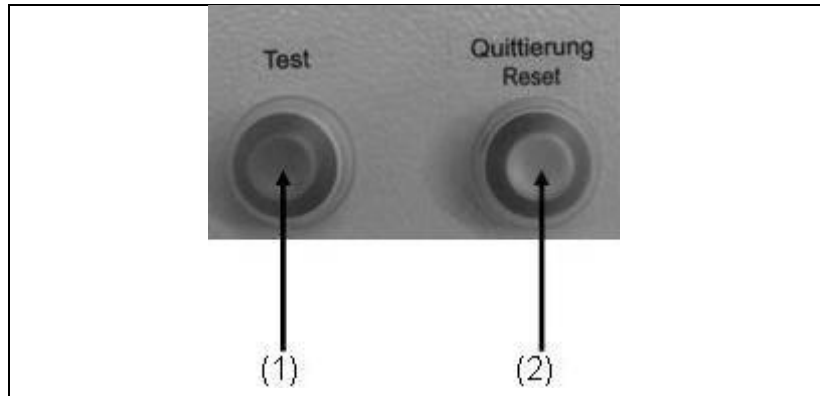

Figure 5-2: Insulation monitoring using E-MCS 3.0
2. Press the test button (see Figure 5-2-(1))
- ✓ The displayed symbol (see Figure 4-55-(9)) indicates the result, the buzzer also sounds for insulation monitoring with this and it can be acknowledged over the acknowledgement button (see Figure 5-2-(2)):
1. The reset button (see Figure 5-2-(1)) must be pressed after the test, so that the unit can be operated again.
2. The reset button (see Figure 5-2-(1)) must be pressed after switching off and disconnecting the consumer so that the unit can be operated again.
3. Press the test button (see Figure 5-2-(2))